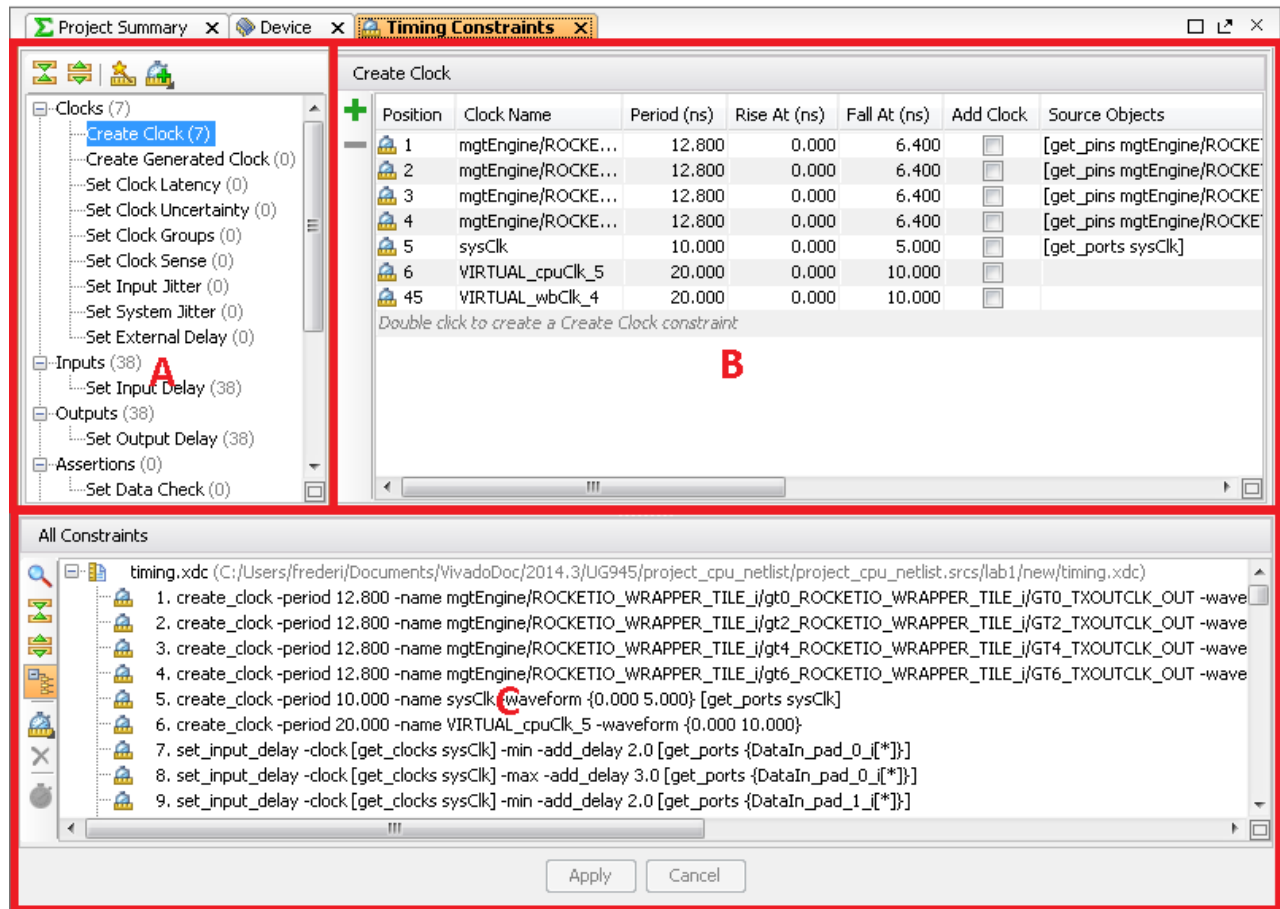

Figure 12: Timing Constraints window
- **Constraints tree view** is labeled section "A" in Figure 12. This section displays standard timing constraints, grouped by category. Double-clicking a constraint in this section opens a form to help you define the selected constraint.
- **Constraints Spreadsheet** is labeled as section "B" in Figure 12. This section displays timing constraints of the type currently selected in the Constraints tree view. If you prefer, you can use this to directly define or edit constraints instead of using the Constraints wizard.
- **All Constraints** is labeled as section "C" in Figure 12, this section displays all the timing constraints that currently exist in the design.